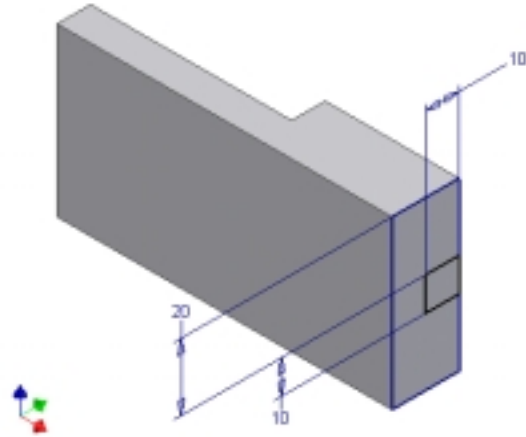

Figure 3-4
4. With reference to Figure 3-4, construct a sketch.